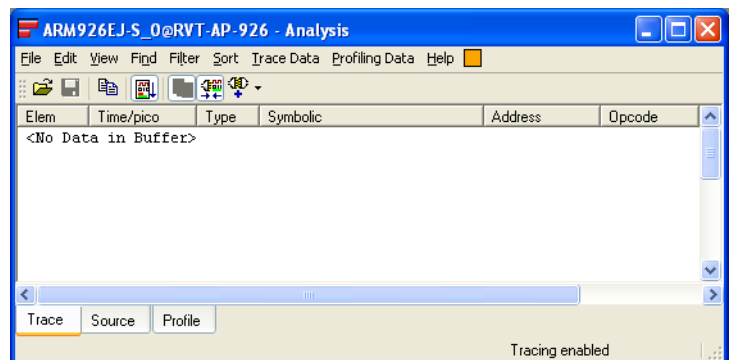

Figure 10-3 Analysis window
- a. Select **View** → **Analysis Window** from the Code window main menu to open the Analysis window. Figure 10-3 shows an example: